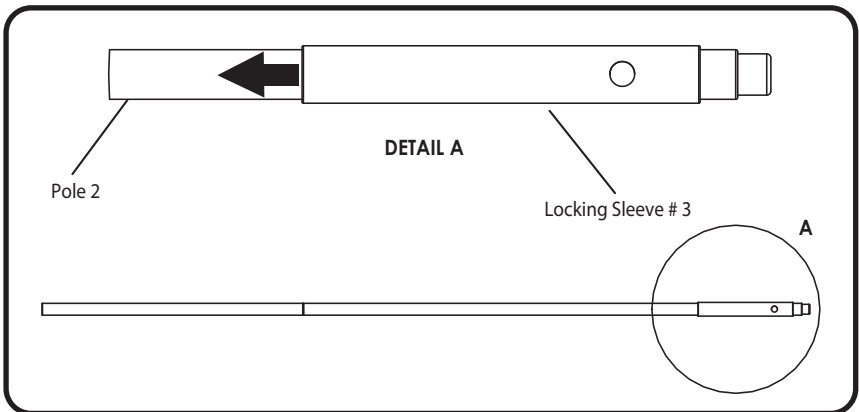

Figure 8
- 8) Slide Locking Sleeve #3 over the end of pole #2 (at the cockpit position), making sure the hole for the snap button is facing the free end of pole #2. See figure 8.